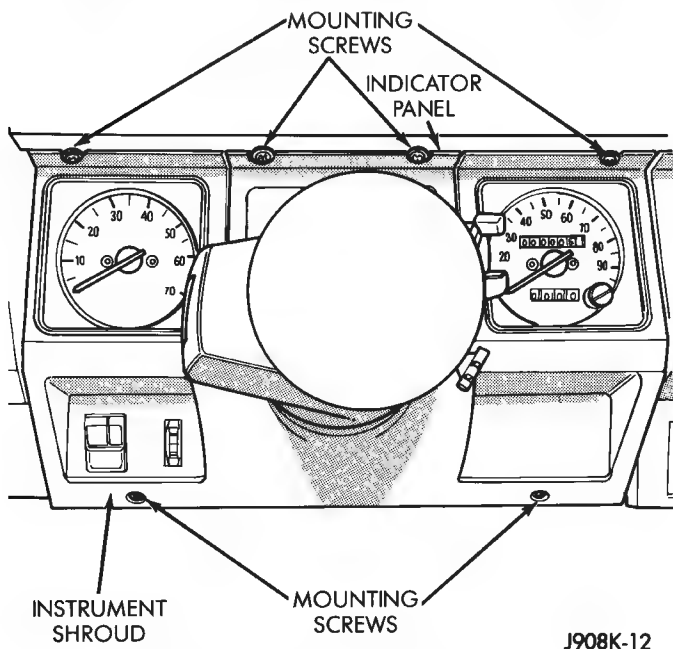

Fig. 9 Instrument Panel Shroud
- (1) Disconnect the battery negative cable.
- (2) Remove the I/P shroud retaining screws (Fig. 9).